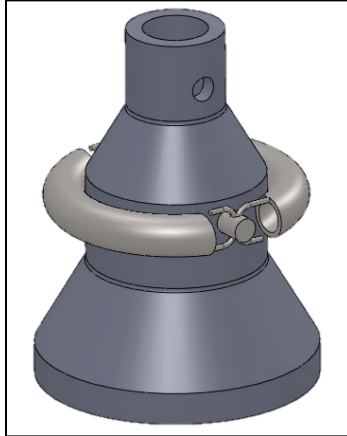

Figure 13: Extension Recovery Tool
**13.1** Refer to 8507-0010, Sidewinder Operator's Guide for a full description of the use of the Sidewinder accessory. This guide is only intended to explain the adapters specific to the IDDO Hand Auger system (Figure 13).